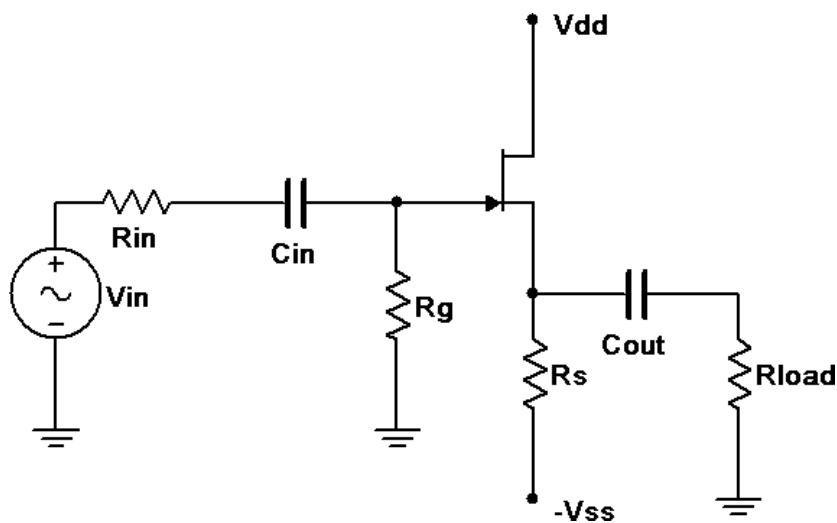

Figure 2
- Consider the circuit of Figure 2 using $V_{dd} = 15$ volts, $V_{ss} = -3$ volts, $R_{in} = 33\text{ k}\Omega$, $R_g = 330\text{ k}\Omega$, $R_s = 4.7\text{ k}\Omega$, $R_{load} = 22\text{ k}\Omega$, $C_{in} = 10\text{ }\mu\text{F}$ and $C_{out} = 470\text{ }\mu\text{F}$. Assuming $V_{GS} = -2$ volts and $g_m = 2\text{ mS}$ (4 mS if using the J112), determine the theoretical gain and input impedance of the circuit and record in Table 2.
- Build the circuit of Figure 2 using $V_{dd} = 15$ volts, $V_{ss} = -3$ volts, $R_{in} = 33\text{ k}\Omega$, $R_g = 330\text{ k}\Omega$, $R_s = 4.7\text{ k}\Omega$, $R_{load} = 22\text{ k}\Omega$, $C_{in} = 10\text{ }\mu\text{F}$ and $C_{out} = 470\text{ }\mu\text{F}$. Set V_{in} to a 100 mV peak sine at 1 kHz. Measure the voltages at the gate and load, and record these in Table 2. Capture images of the input and gate voltages, and the gate and load voltages. Note whether or not the load is inverted compared to the gate signal.